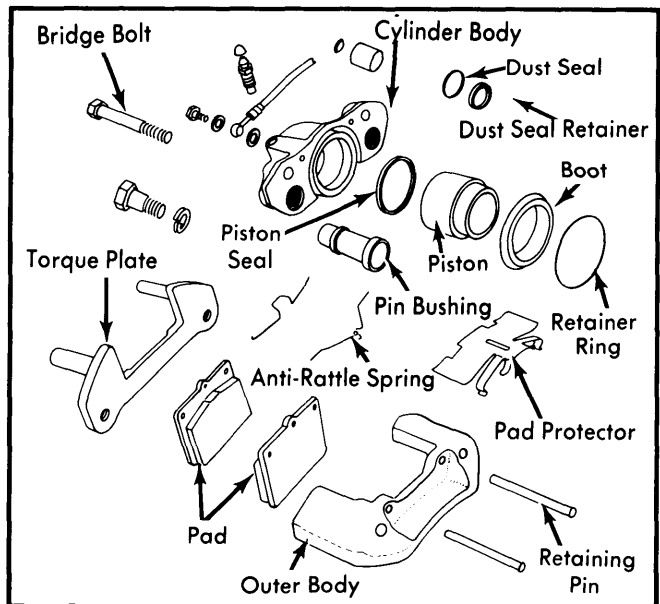

Fig. 3 Exploded View of PS Type Disc Brake
**Disassembly (PS Type)** — Loosen both bridge bolts (caliper half mounting bolts) and separate cylinder casting from outer body. Pull out torque plate. Remove retainer ring and dust boot. Force light air pressure through fluid inlet port and expel piston. From caliper, remove following: Piston seal, bushings, hole plug, retainers and dust seals. See Fig. 3.